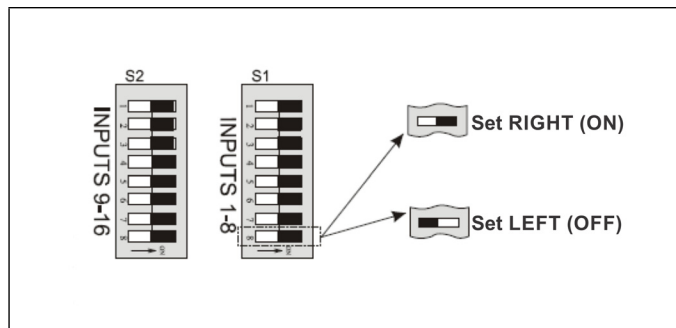

Figure 9 - MultiFlex Input Dip Switches
3. The **DIP** switch setting of the MultiFlex board terminal for the MRLDS-250 should be in the OFF position (see **Figure 9**) because it supplies its own voltage signal to the point: